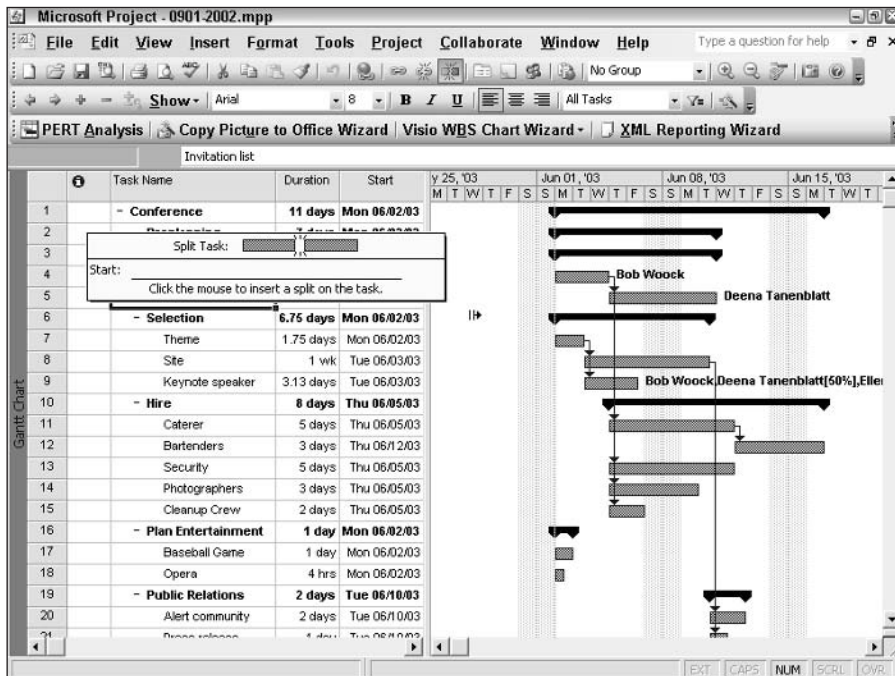

Figure 9-11: Use the Split Task button to divide a task.
2. Click the Split Task button on the Standard toolbar. The button appears to be pressed, the mouse pointer changes shape, and a screen tip tells you how to split a task, as shown in Figure 9-11.